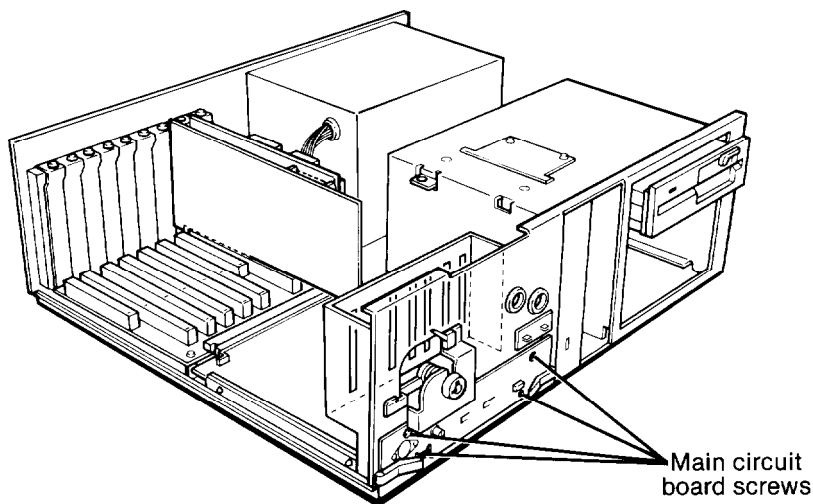

Figure A-5. Removing circuit board screws
2. With the front of the computer facing you, remove the four screws that secure the circuit board to the computer, as shown in Figure A-5.